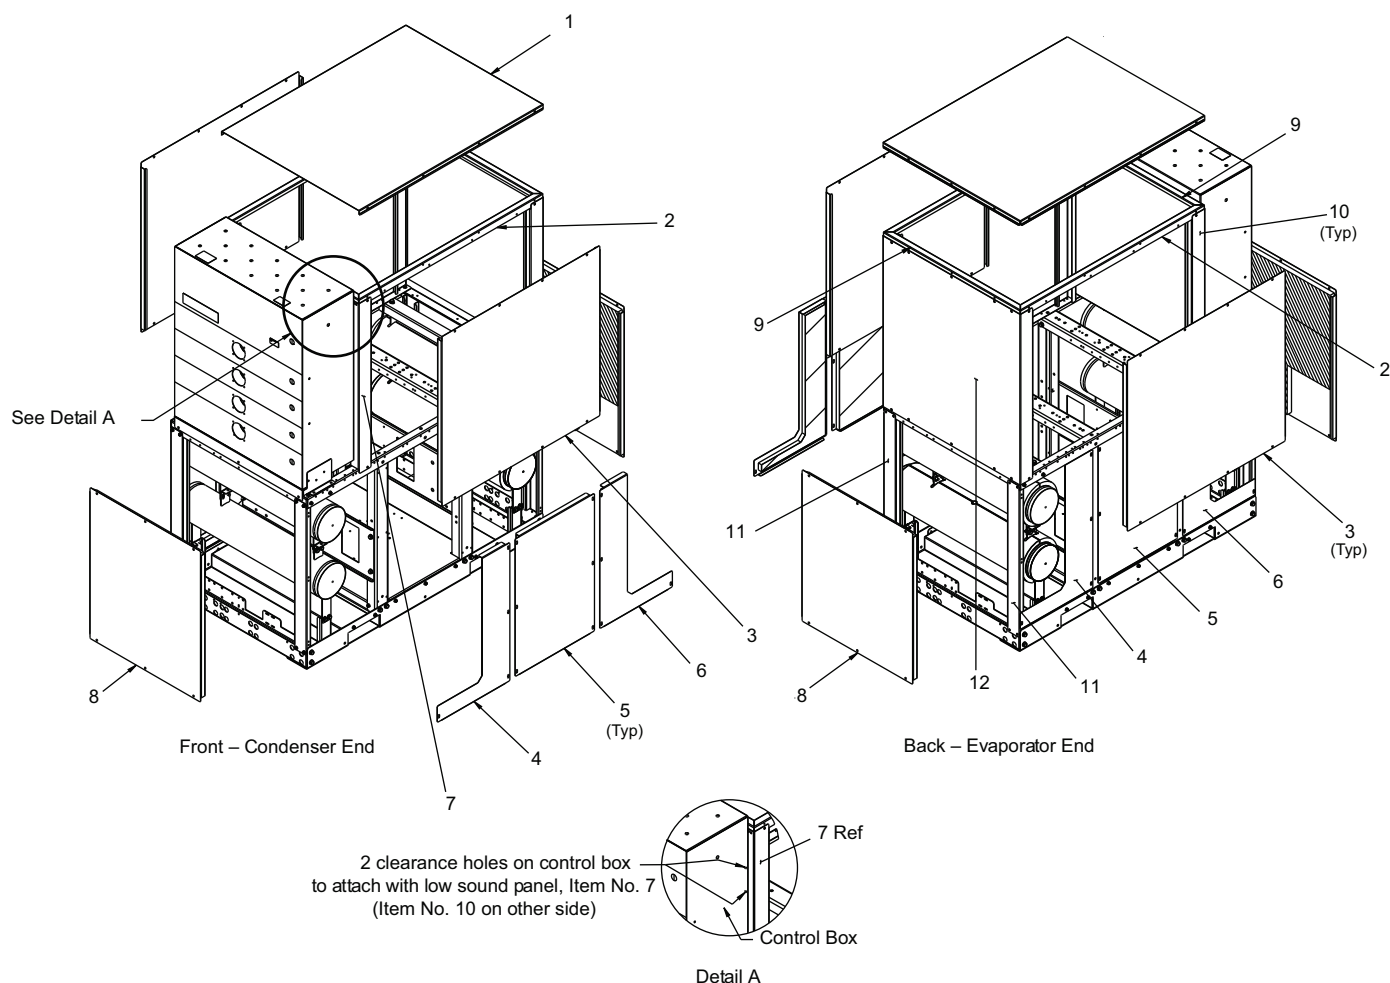

Fig. 2 – 30MPEA and MPEW Units
NOTE: See Fig. 2 for item number locations.
Install two corner posts to the unit corners. Install with the screws provided. Two corner posts are installed under the control box end from the factory. See Fig. 2, Item 11 and Table 3 for item locations and descriptions.
2. Install right and left corner panels to control box and frame, in same manner as the gussets removed in Step 1. See Fig. 2, Items 7 and 10.
3. Install rear panel to frame on evaporator end of unit. See Fig. 2, Item 12.
4. Install side and front/back top channels (see Fig. 2, Items 2 and 9) inside the corner panels installed in Step 2. See Fig. 5-7 for channel and tab locations.
1. Install side panels (Fig. 2, Item 3) to upper frame.
2. Place top panel (Fig. 2, Item 1) over top frame and secure with screws provided.
3. Install 2 center panels. See Fig. 2, Item 5.
4. Install end panel for the unit size. See Fig. 2, Item 8.
5. Install left and right insulation assemblies. See Fig. 2, Items 4 and 6.